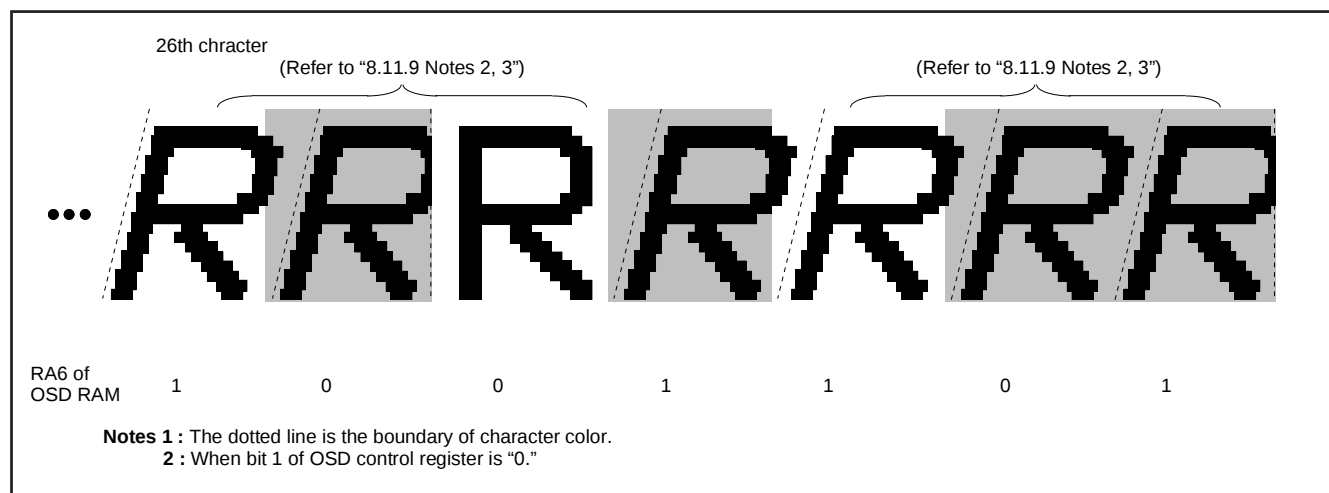

Fig. 8.11.20 Example of Italic Display
- 2:** The boundary of character color is displayed in italic. However, the boundary of character background color is not affected by the italic (refer to Figure 8.11.20).
- 3:** The adjacent character (one side or both sides) to an italic character is displayed in italic even when the character is not specified to be displayed in italic (refer to Figure 8.11.20).